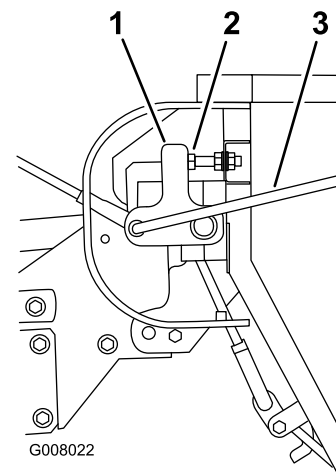
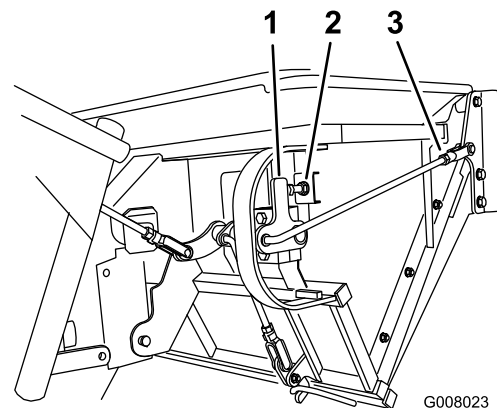

Figure 38
Figure 39
3. With the door closed, loosen the nuts and adjust the stop bolts so that the contact arm is straight up and down (Figure 38 and Figure 39).
4. Adjust the length of the hinge links to so that the door completely closes and reasonable force is on the handle (Figure 38 and Figure 39).